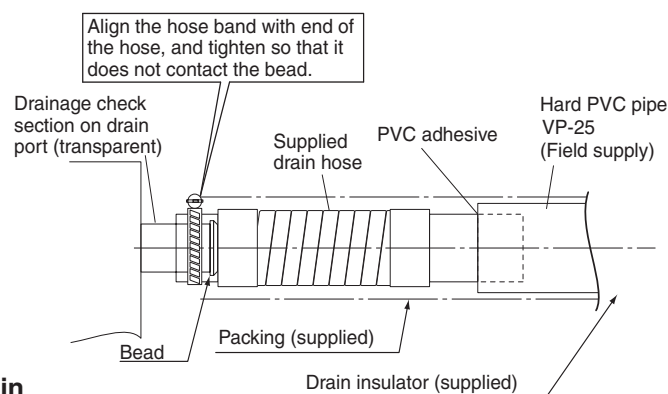

Fig. 3-91
- (1) Prepare standard hard PVC pipe (O.D. 1-1/4") for the drain and use the supplied hose band to prevent water leaks. The PVC pipe must be purchased separately. The transparent drain part on the unit allows you to check drainage. (Fig. 3-91)
- Tighten the hose clamps so their locking nuts face upward. (Fig. 3-91)